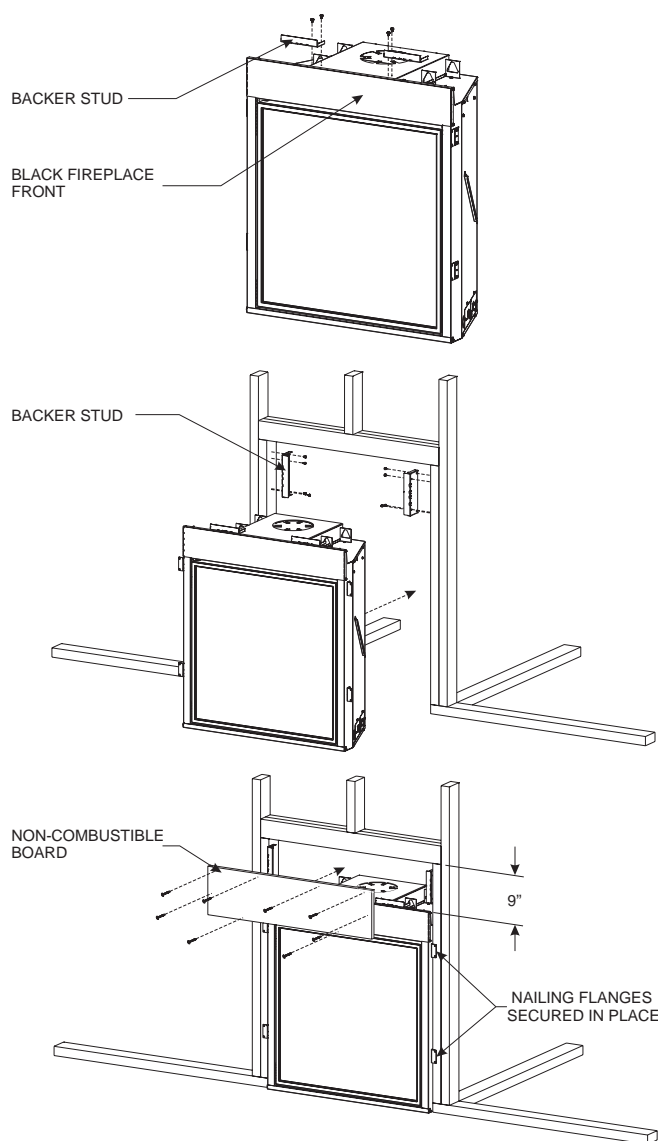

Figure 33
NOTICE: For finishing top of fireplace, refer to **Figure 33**.
8. Attach the two backer studs to the firebox with four #10 x 1/2 Phillips screws (provided) as shown in **Figure 33**.
9. Attach the two backer studs to the vertical studs with four screws appropriate for installation (not provided) as shown **Figure 33**.
11. Mark non-combustible board for backer stud locations. Position the non-combustible board and secure with four #8 x 1 self-drilling drywall screws (provided) as shown in **Figure 33**. Four screws appropriate for installation (not provided) screw into the header. See **Figure 33**. To avoid damage to the non-combustible board, do not use more screws.